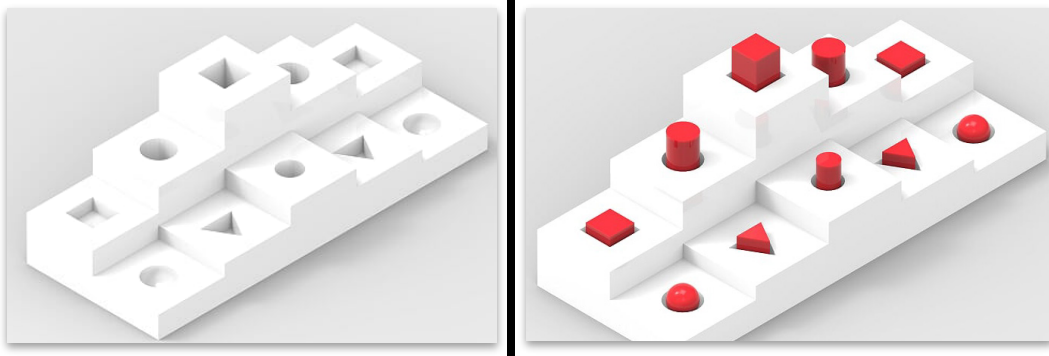
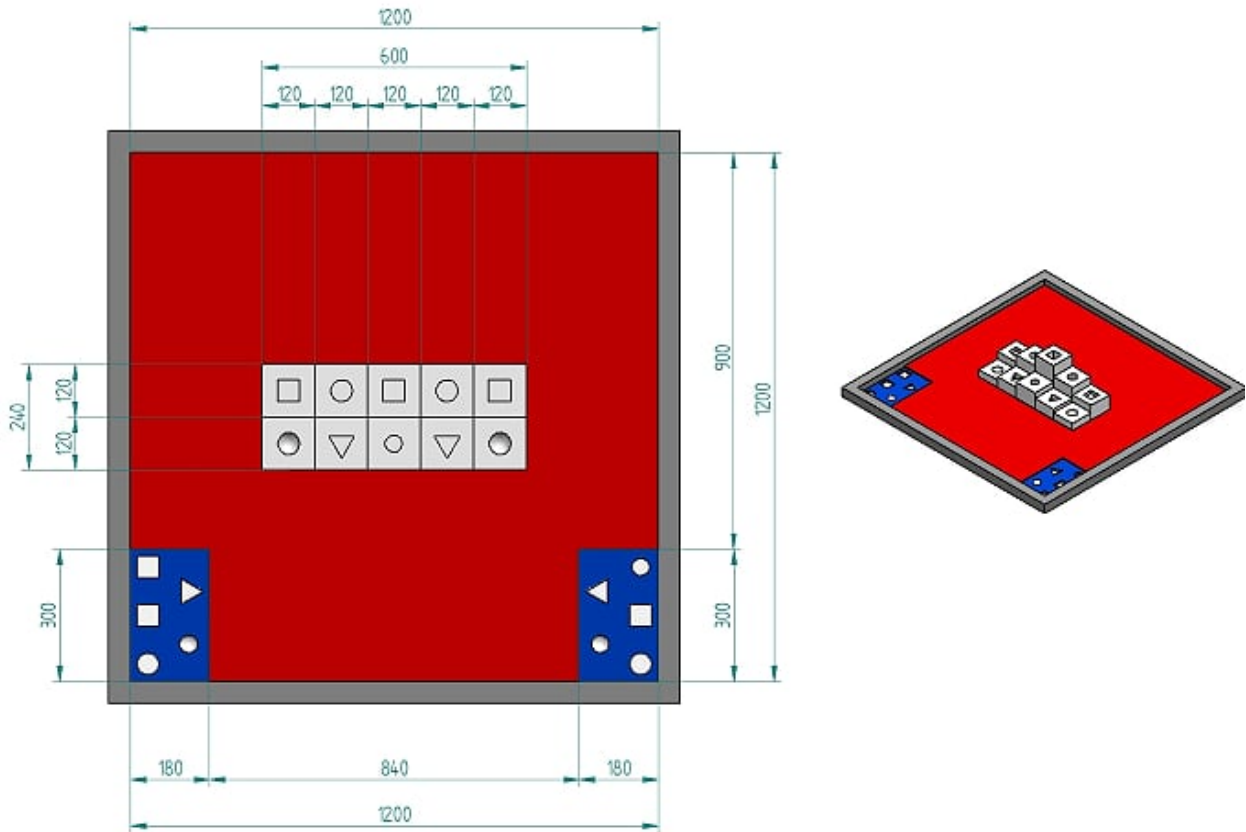

Figure 2- Platform and objects
Figure 3- Location of Platform
14. Robotic arm picks and places various objects (made by PLA plastic) to the platform which is shown at figure 2. Platform dimensions are given at figure 3 and figure 4.